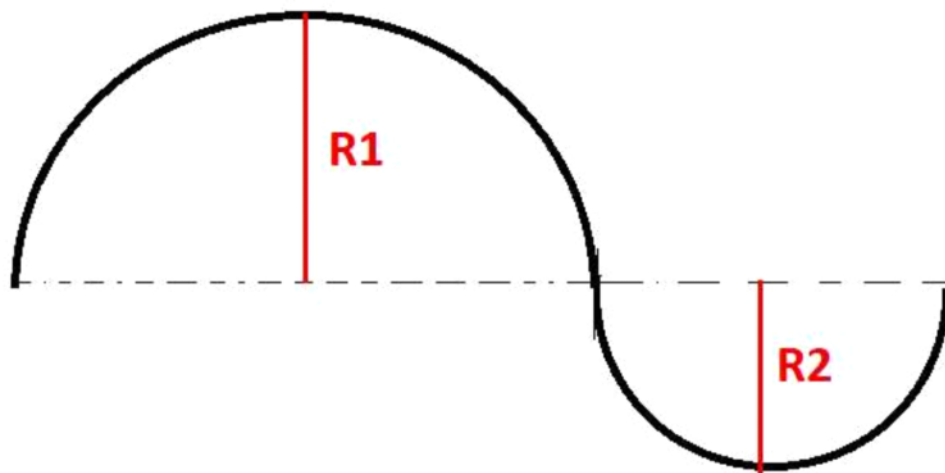

Figure 2. Path to be followed by the robot.
Implement the program 'SShape.ino'. The program should make the robot move in two semicircles of radius "R1" and "R2" respectively, as shown in Figure 2. The robot should stay still until the "select" button is pressed. When "select" is pressed, the robot should perform the first semicircle in a clockwise movement. After completing the first semicircle, the robot should wait for the "select" button to be pressed again, and then perform the second semicircle in a counterclockwise manner. The whole movement must be completed in "Y" seconds moving at the same constant speed for both halves. The robot should stop based on encoder readings (distance traversed), and not based on a given time.
- 1) Observe that, independently of the trajectory, the robot moves by fixing the speeds of the wheels for a given amount of time (as in the "S" shape shown in Figure 2). Taking this into consideration, can the robot move in any kind of trajectory? Consider an ellipse as an example.